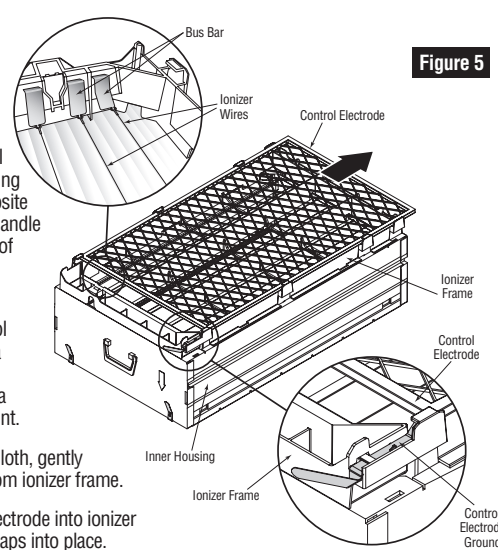

Figure 5
**Step 15:** Remove control electrode by lifting up on end opposite inner housing handle and sliding out of ionizer frame (see Figure 5).